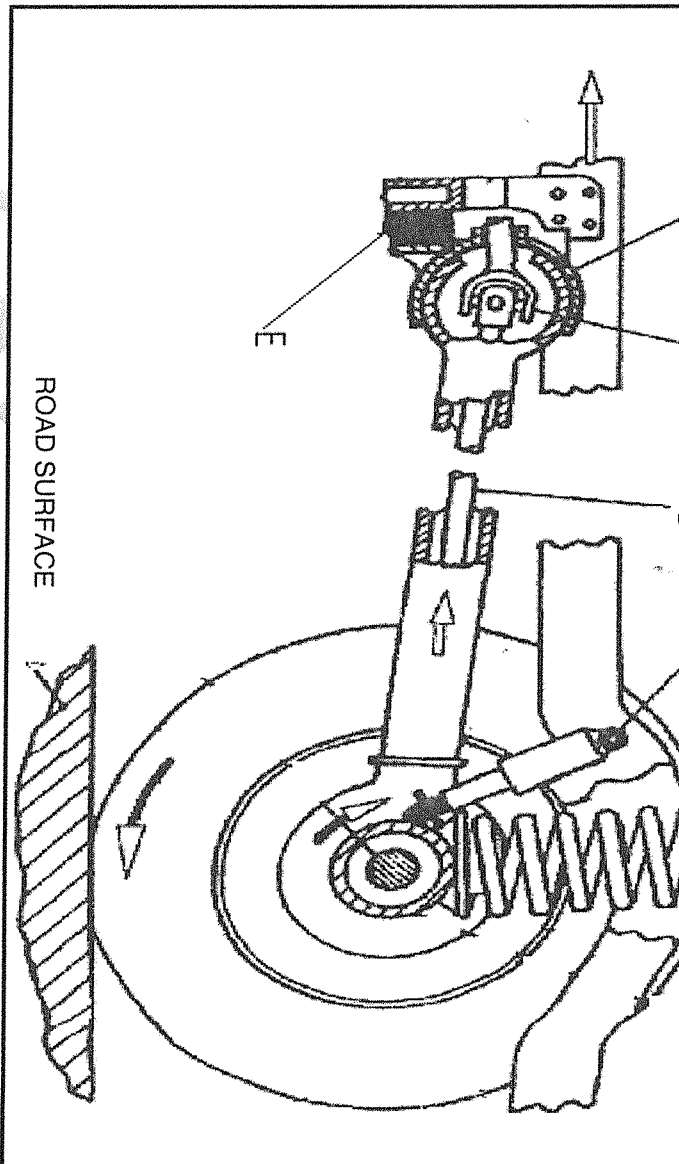

FIGURE 2
- 2.2 Name the rear-wheel drive system shown in FIGURE 2. (1)